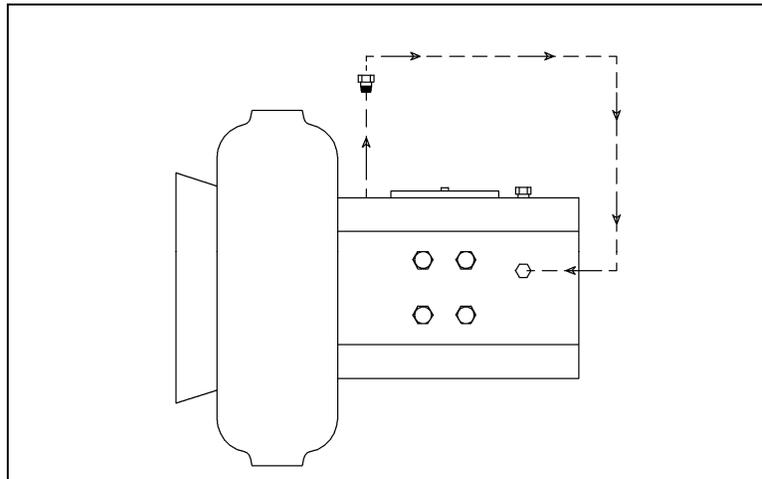

Figure 2: Old Components Removed
8. Remove the fittings in the side of the Actuator that were tubed to the OPEN and CLOSE lines from the old hand pump. Also remove the plugs in the upper head on the control side. Clean the threads of the plugs, apply an appropriate pipe sealant and plug the side ports (see Figure 2).